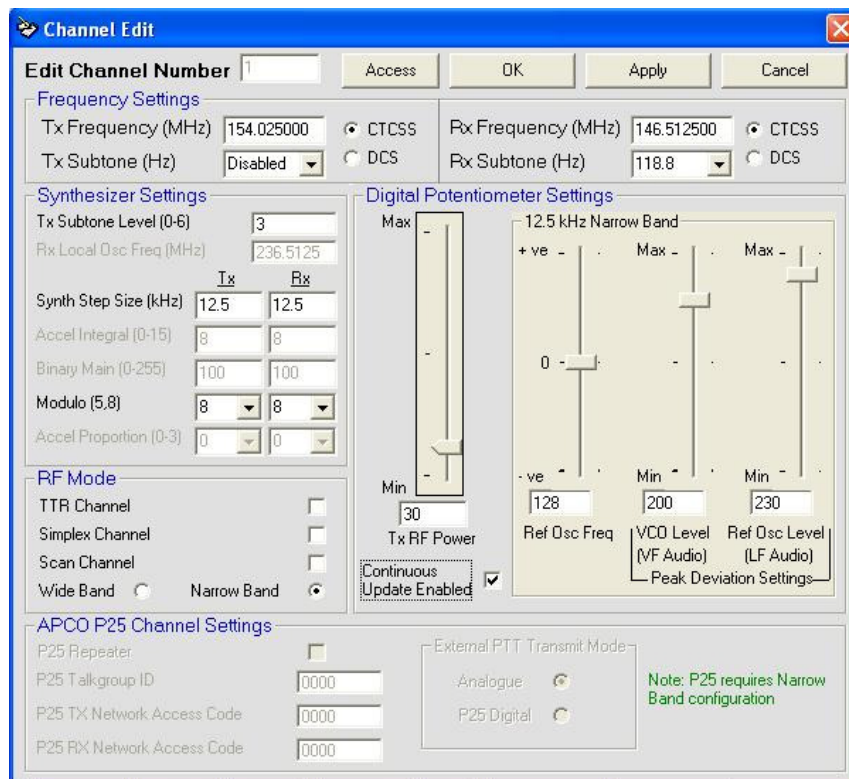

Figure 12. MxTools – Channel Edit page.
- 30. On the MxTools Channel Edit screen (see **Figure 12** overleaf), adjust the various settings as per **Table 16** below.